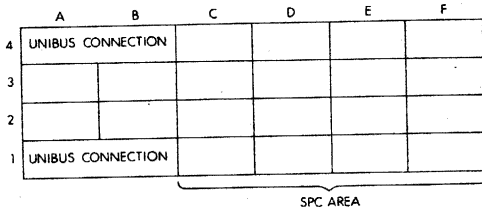
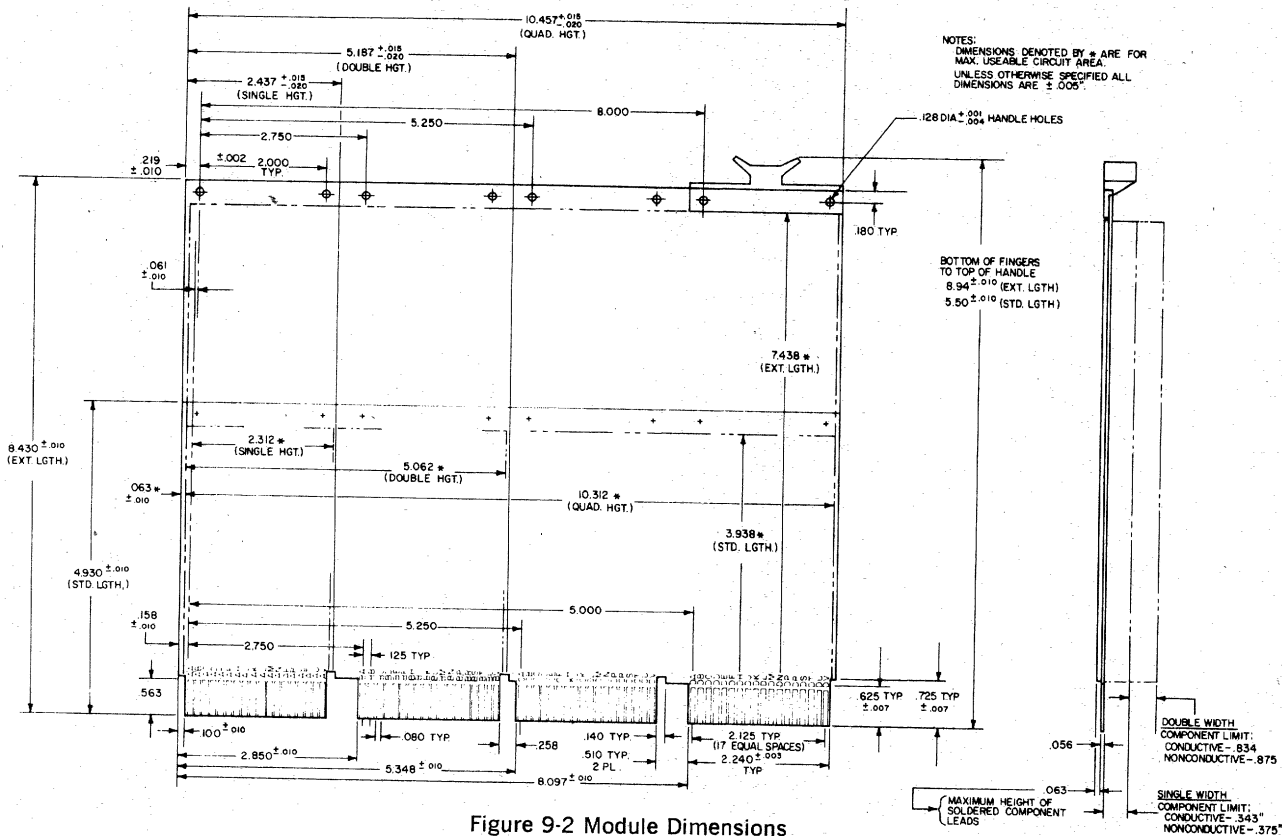

Figure 9-1 System Unit (SU) & DD11
Figure 9-2 Module Dimensions
The basic mounting assembly for PDP-11 logic is the System Unit (SU), see Figure 9-1. Logic modules and cable connectors plug into the System Unit, and backplane wiring on the other side connects pins together. There are a total of 24 single module slots, but several of them are committed to UNIBUS connections. Logic modules are 8.5" long and the height can be single, double, quad, or hex (taking up 1, 2, 4, or 6 modules slots), see Figure 9-2. A System Unit is connected to other System Units only via the UNIBUS.